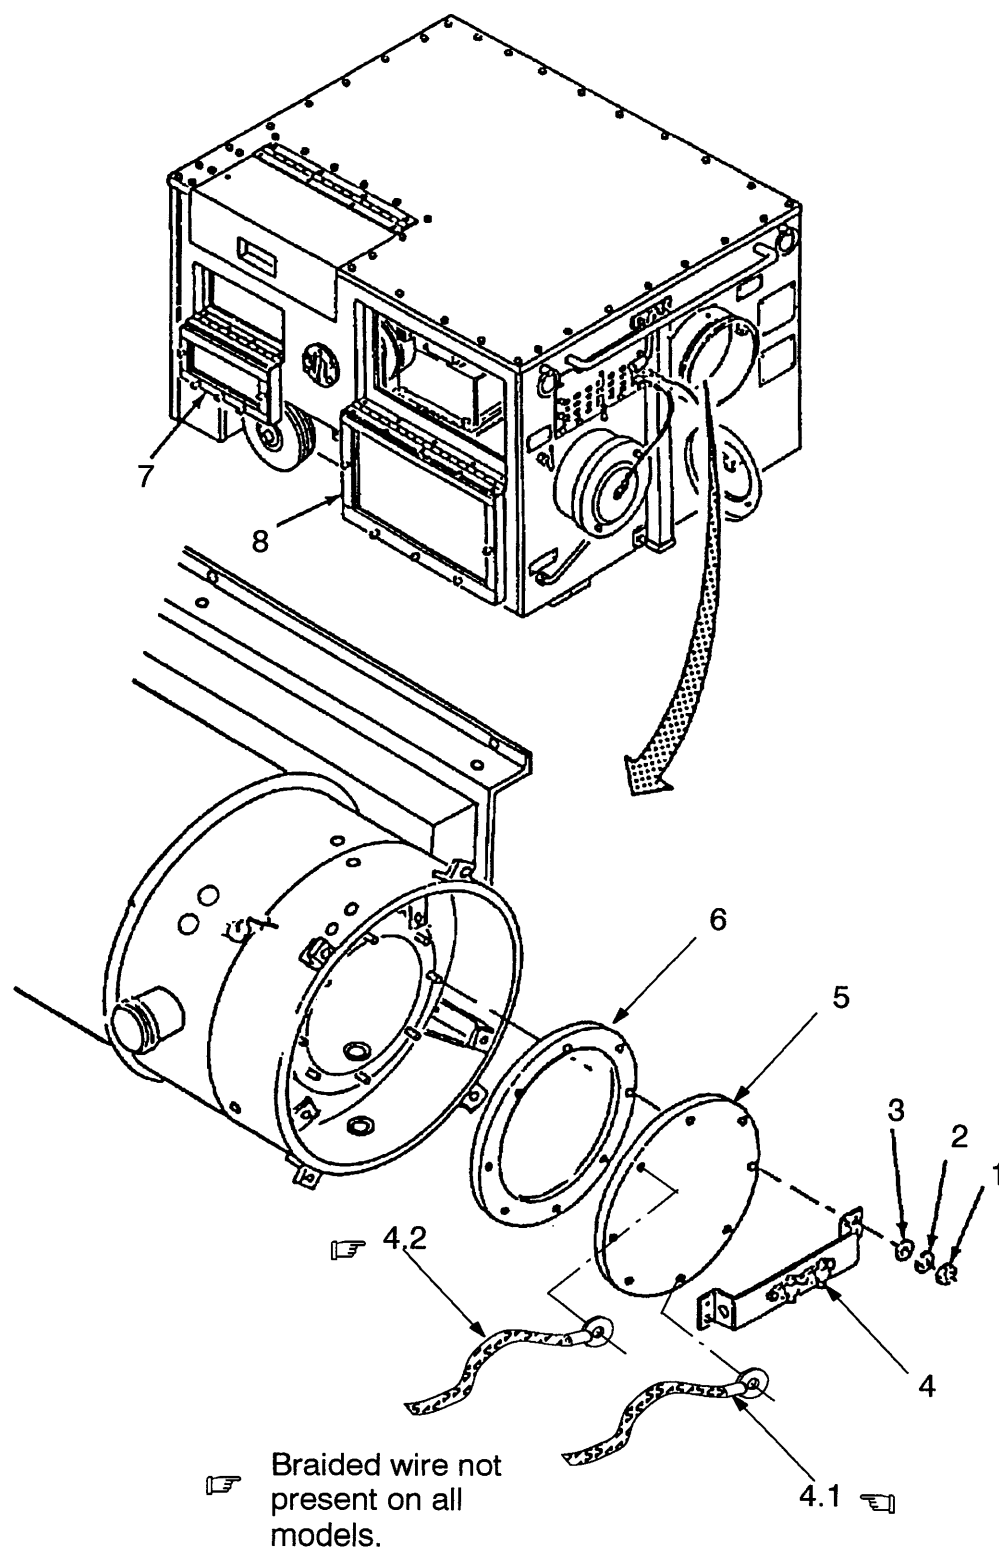

Figure 4-61. Heat Exchanger Removal
a. Disassembly (Refer to Figure 4-61)
- (1) Remove eight nuts (1), eight lockwashers (2), eight flat washers, (3) and thermostat bracket (4). Discard lockwashers.
**Cover plate (5) may have two braided wires attached on some models.**
- (1a) Tag and disconnect braided wires (4.1) and (4.2), if attached to cover plate (5).
- (1b) Remove cover plate (5)
- (2) Remove cover (5) and gasket (6). Discard gasket.
- (3) Open right side rear door (7) and right side front door (8).